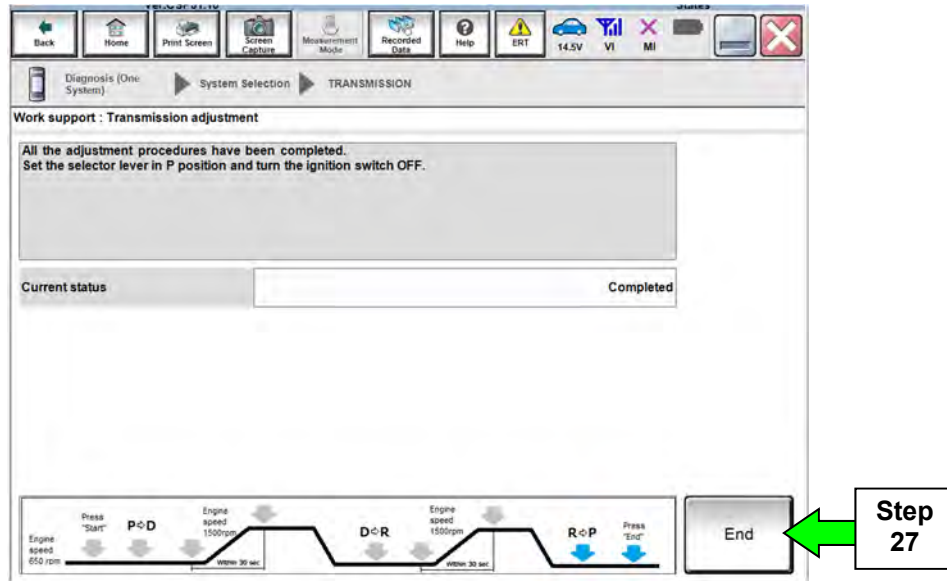

Figure 30
- When complete the screen in Figure 30 (next page) will display.
25. When the Transmission Adjustment has completed (see Figure 30), shift the transmission to Park.